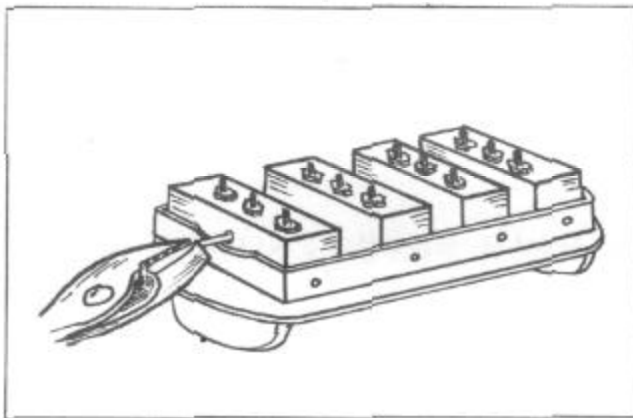

FIGURE 129
3. With a wire, push the brass pivot pin out toward the end of the switch case and remove the pin, Figure 129.